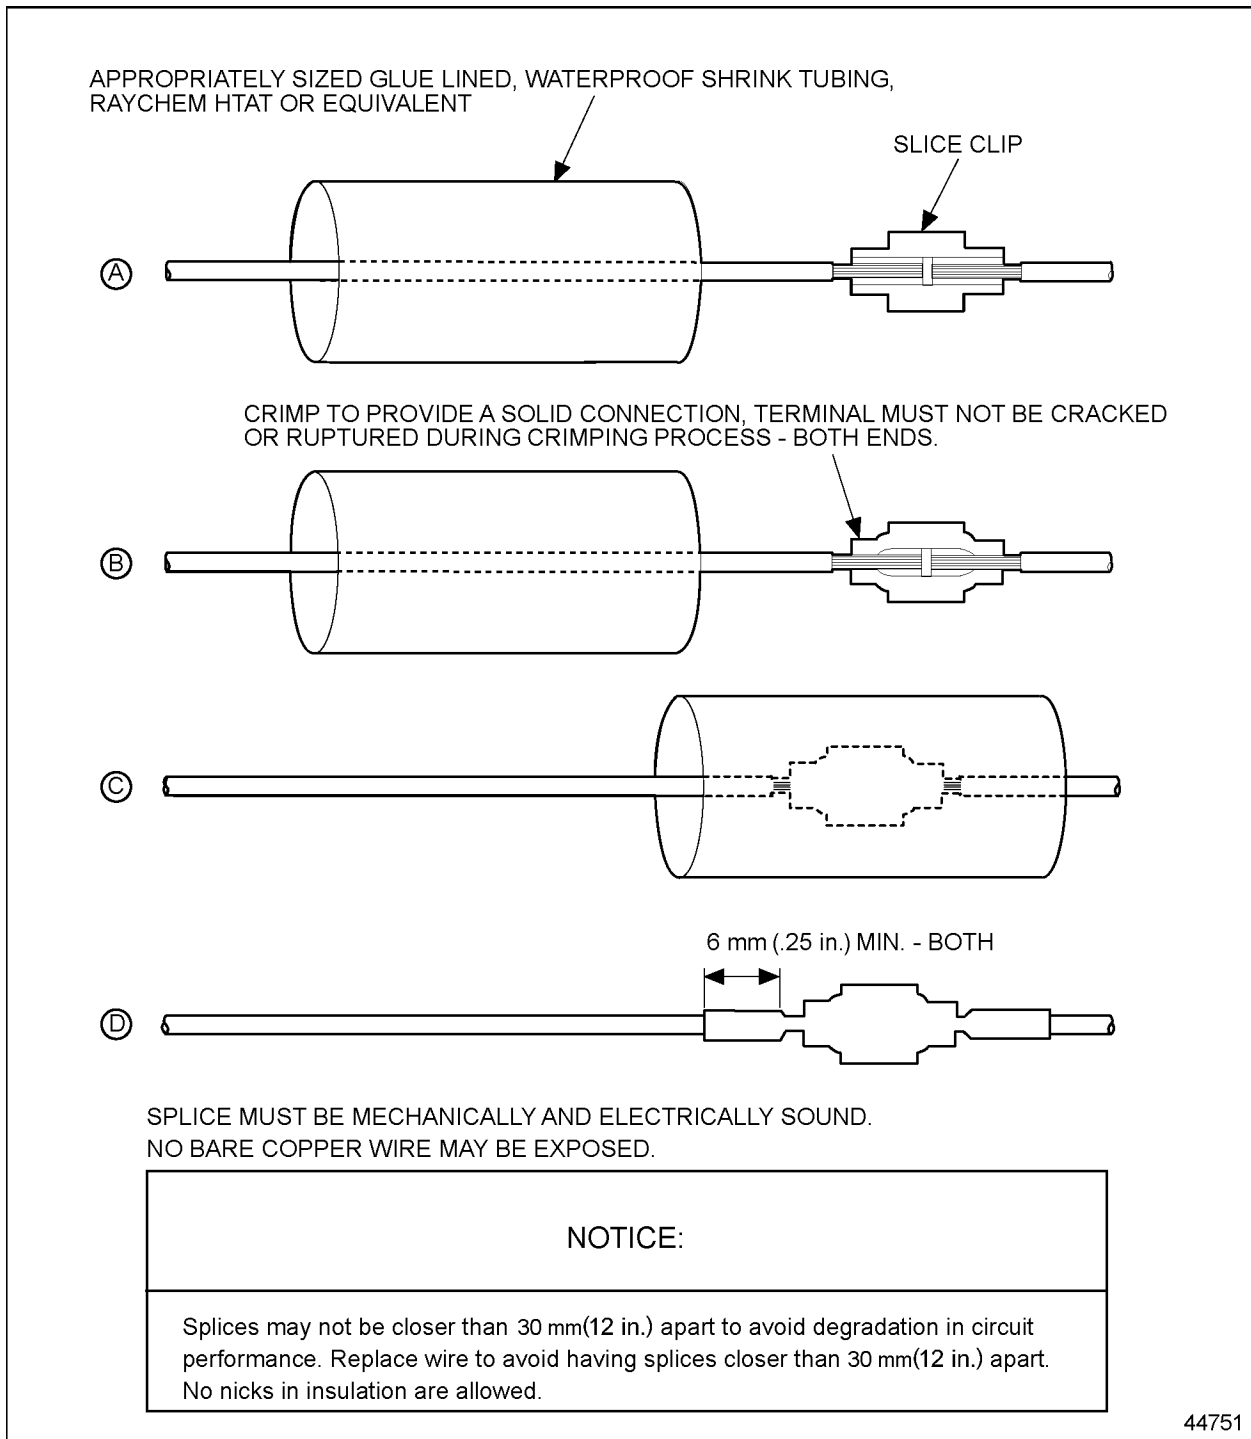

Figure 2-26 Splicing Straight Leads - Alternate Method 2
3. Slide a sleeve of glue lined, shrink tubing (Raychem HTAT or equivalent) long enough to cover the splice clip on the wire and overlap the wire insulation, about 6 mm (0.25 in.) on both sides (see Figure 2-26, A).
4. Insert one wire into splice clip until it butts against the splice clip. Stop and crimp (see Figure 2-26, B).
5. Insert the remaining wires into the splice clip one at a time until each butts against the splice clip; stop and crimp (see Figure 2-26, B).
7. Slide the shrink tubing over the crimped splice clip (see Figure 2-26, C).
8. Shrink tubing with a heat gun to seal the splice (see Figure 2-26, D).